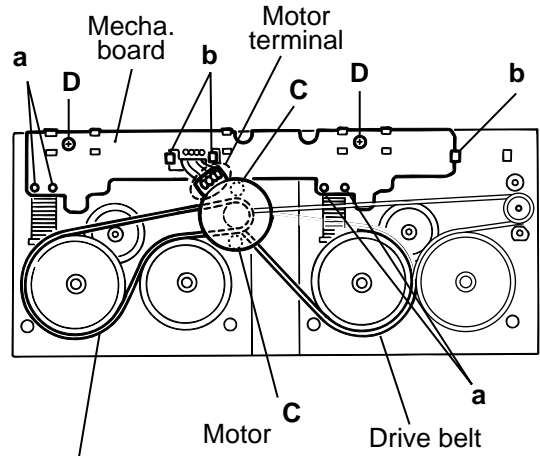
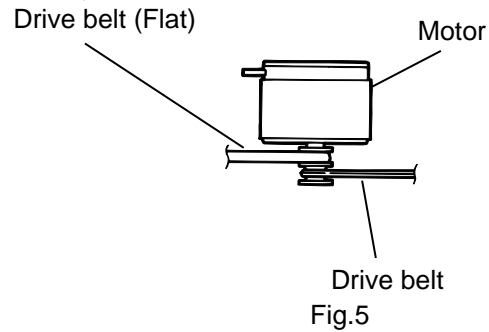

Fig.4
Fig.5
Be careful to grease's splash when the drive belt comes off.(Fig.4, Fig.5)
2. Unsolder the motor terminal.(Fig.4)
1. Unsolder the four parts **a** on the solenoid coil terminal.(Fig.4)
2. Remove the two screws **D** fixing the board.(Fig.4)
3. Unhook the three parts **b** from the board.(Fig.4)
4. Remove the mechanism board.(Fig.4)